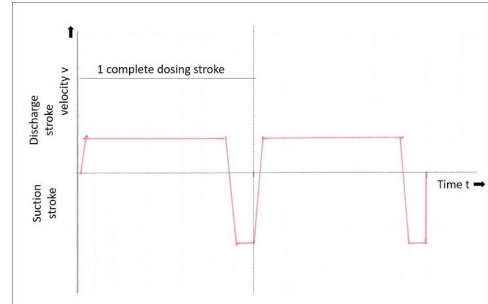

Figure 15: Linear motor dosing pump Evo mikro – nearly continuous dosing with minimum dosing pause
- The "stepper motor characteristic" with integrated path detection is well suited for the control of dosing profiles (see **Figure 15 - 17**).
In comparison, Figures 15 to 17 show the flexibility of the linear motor on the basis of different speed-time profiles of single-head pumps. These are classified in the following chapter by means of application requirements and application examples.